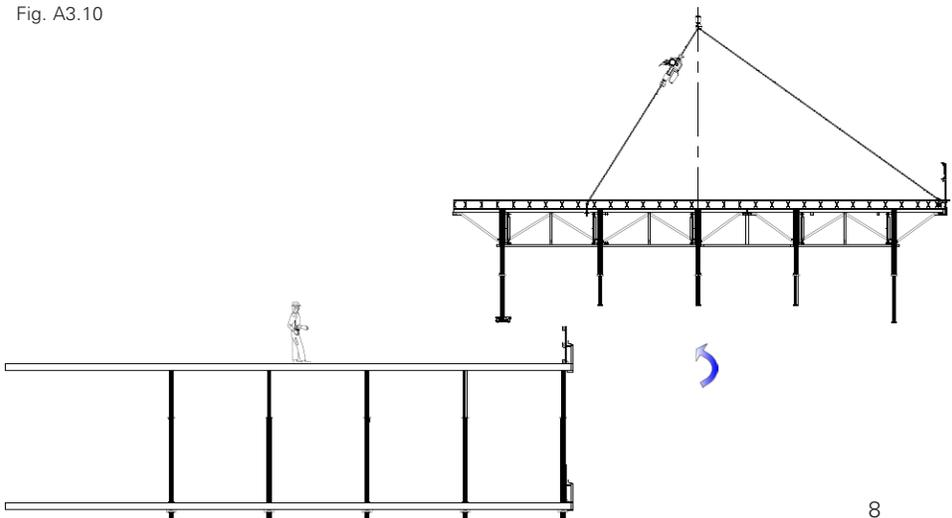

Fig. A3.11
9. Remove table restraint to freely fly table to next level. (Fig. A3.11)